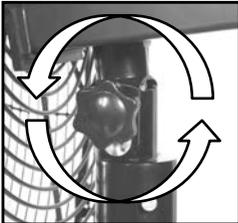

Fig.3
**Caution:** Prior to plugging in the unit ensure the switch is in the OFF (0) position.
1. Located at the rear of the fan motor (4) unit is the 3 speed switch (3) (Fig. 3).
4. To turn the unit OFF rotate the 3 speed switch (3) to the OFF position (0).